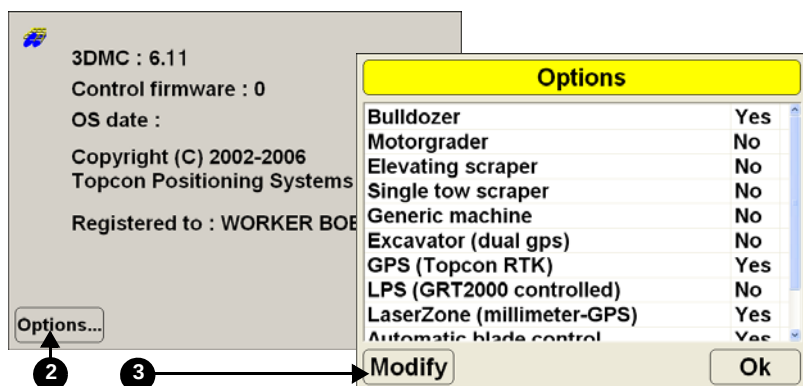

Figure 10-38. About 3DMC and Control Box Options for 3DMC
1. To view information about 3DMC, press **Topcon Logo ▶ View ▶ About 3DMC**. The *about 3DMC* dialog box displays version number, copyright date and publisher, registered user, and authorization codes (Figure 10-38).
2. To view the enabled options, press **Options** on the *about 3DMC* dialog box (Figure 10-38).
3. To modify 3DMC options, press **Modify** on the *Options* dialog box (Figure 10-38).